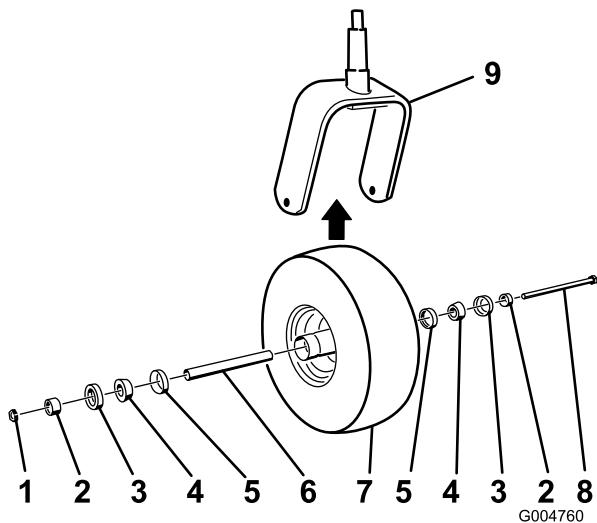

Figure 54
2. Remove the locknut from the bolt holding the castor wheel assembly between the castor fork (Figure 54).
5. Assemble the castor wheel by pushing the cone bearings and seals, packed with grease, into the wheel hub, positioned as shown in Figure 54.